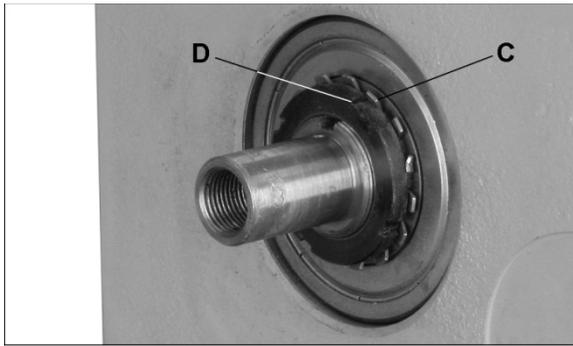

Figure 32
The spindle bearing has been set at the factory for general turning applications. There should be no "end play" or looseness along the spindle's axis. If any looseness should ever occur, it may be rectified by carefully tightening the bearing lock nut on the spindle, as follows. (See Figure 32).
2. Use a screwdriver to carefully bend back any tabs on the tabbed lock washer (C, Figure 32) that interfere with the insets on the bearing lock nut (D).
3. Place the end of a flat head screwdriver down against one of the insets of the bearing lock nut (D).
4. Tap the handle of the screwdriver with a mallet so that it turns the bearing lock nut (D) tighter in a clockwise direction. Rotate the bearing lock nut only about 1/16" at a time.
2. Loosen lock handle (A) and lift up handle (B) to raise motor.
3. Tighten lock handle (A) to hold motor in raised position. Slip belt off pulleys.
4. Loosen two set screws on handwheel (F) with a hex key and pull handwheel off headstock spindle.
5. Loosen and remove bearing lock nut and tabbed lock washer (C/D, Figure 32).
9. Slide spindle back into place, install tabbed lock washer, and bearing lock nut (C/D, Figure 32). Check for any spindle play at this point (See section 9.13, "Checking Spindle Play").